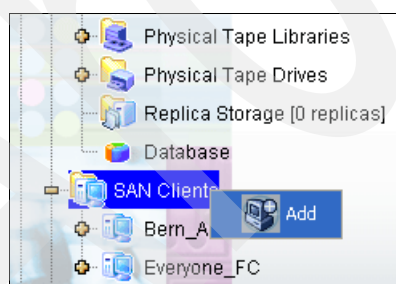

Figure 6-52 Adding SAN clients: starting the Add Client Wizard
1. Right-click **SAN Clients** in <your TS7530 server> and select **Add** to start the Add Client Wizard. See Figure 6-52.